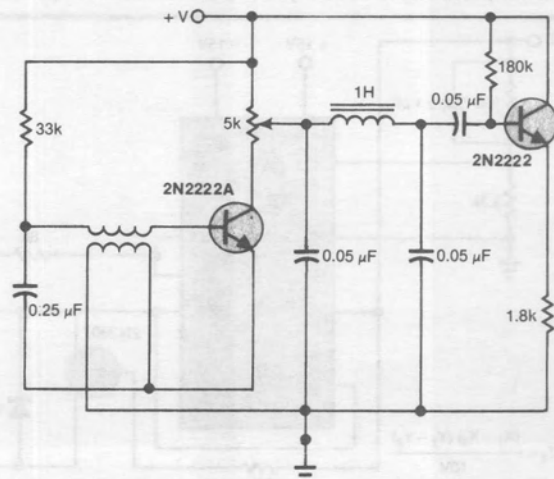

Fig 17—This circuit requires the addition of one component to provide stability and output-waveform purity. What is it?
25. One component is required to make the circuit depicted in Fig 17 oscillate with good stability and output-wave purity. Put it in.